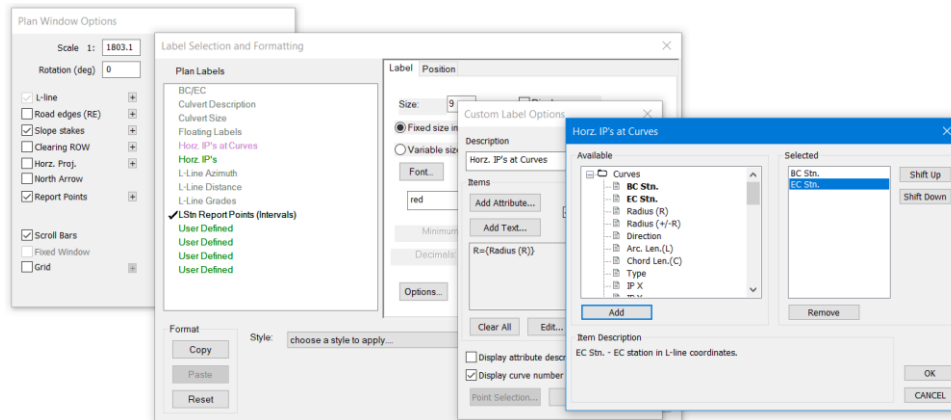

Figure 23-6: Displaying Horizontal IP's Labels at Curves
- Click on the *Add Attribute...* button and then add *BC Station* and *EC Station* (Figure 23-6).